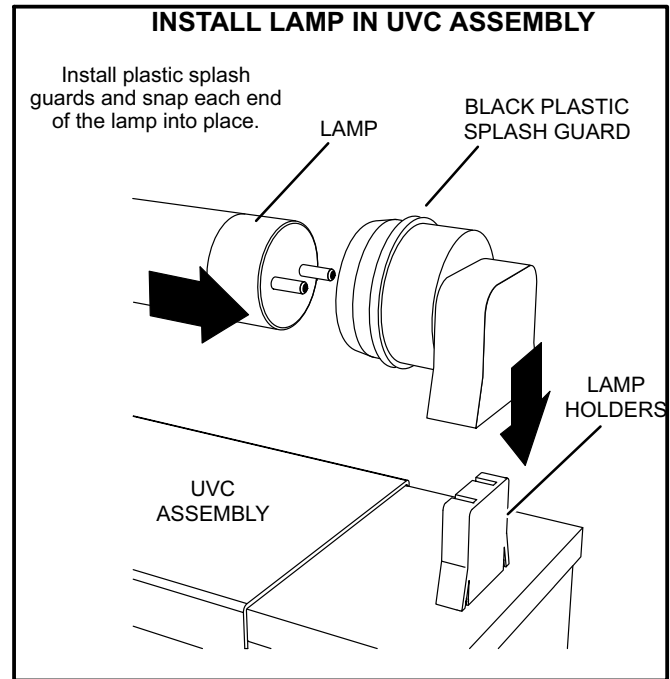

FIGURE 45
- 6- Allow 10 minutes before touching the lamps. Then, carefully remove the lamp splash guards (and lamp for annual replacement) from each of the lamp holders. See figure 45.